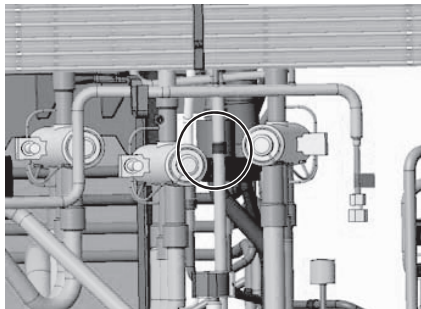

Figure 5
(4) Remove the braze from the pipe between four-way valves (21S4a and 21S4b). (See Figure 5.)